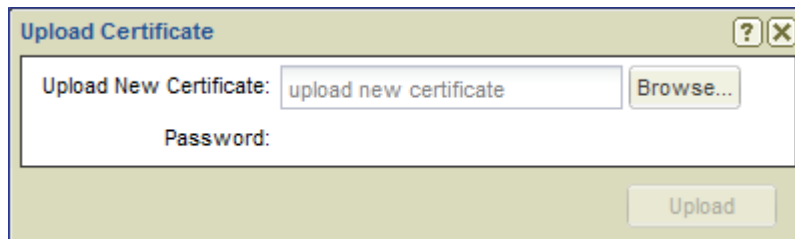

Figure 22. Upload Certificate Dialog
2. The **Upload Certificate** dialog opens (see figure 22). Select **Browse**.